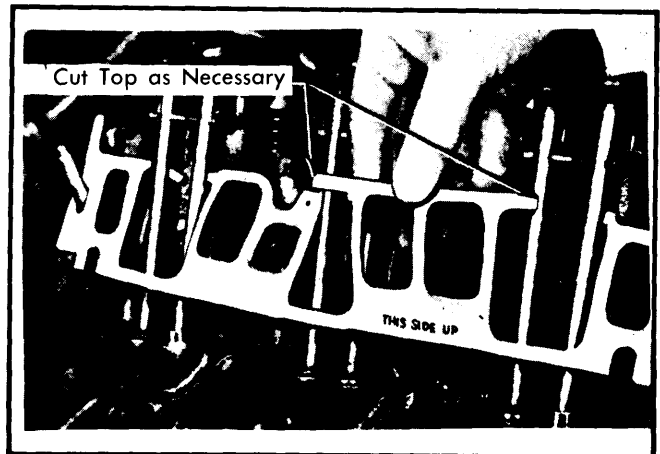

Fig. 2 Intake Manifold Gasket Installation
**NOTE** — When installing intake gaskets, notice that the gaskets are marked Right Side and Left Side. The new intake gaskets will have to be cut to install behind push rods. See Fig. 2.